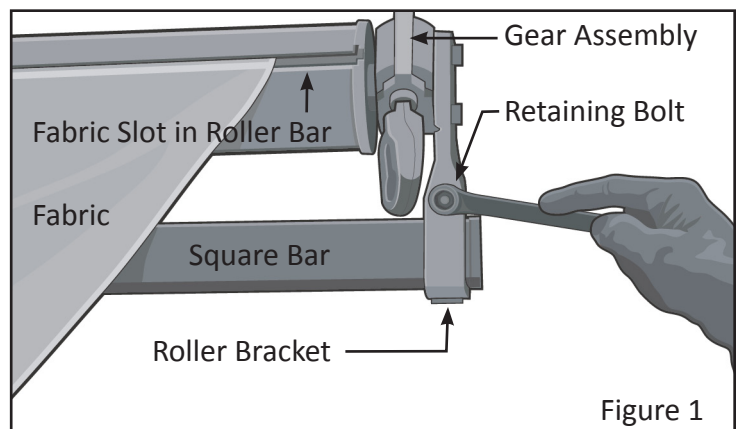

Figure 1
2. Using the Manual Crank Wand, continue to unroll the Fabric until you expose the Fabric Slot in the Roller Bar. Remove the crank wand. See Figure 1.
3. While your helper supports the end of the Roller bar opposite the Gear Assembly, use a 13mm or ½" wrench to loosen the Retaining Bolt on the Roller Bracket that is connected to the Gear Assembly. See Figure 1.